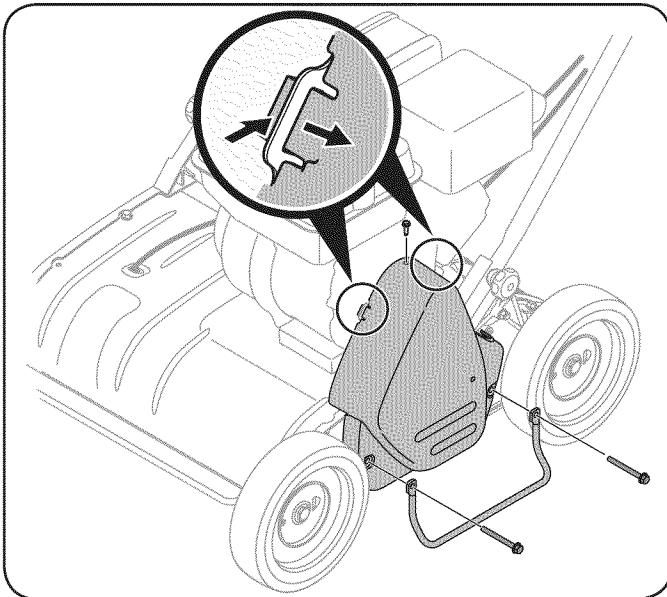

Figure 14
1. Remove the belt cover by removing the three hex screws that secure it to the frame and pressing the top two notches in. See Figure 14.